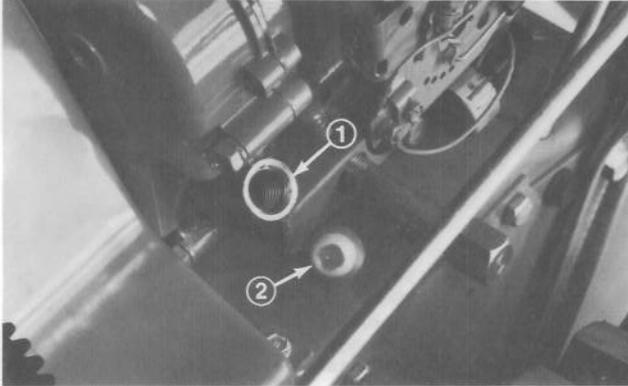

Figure 21
3. Remove filler plug from crankcase on 826 (Fig. 21). Remove dip stick from filler hole on 1132 (Fig. 22).
4. Using a clean funnel, slowly pour approximately 44 ounces (1.30 l) of oil on 826 and 48 ounces (1.42 l) on 1132 into crankcase filler hole (Fig. 21 & 22). The Briggs & Stratton engine uses any high quality detergent oil having the American Petroleum Institute — API — “service classification” MS, SC, SD or SE. Oil viscosity — weight — must be selected according to anticipated ambient temperature. The recommended oils are SAE 5W30 or 5W20, and an acceptable substitute is SAE 10.